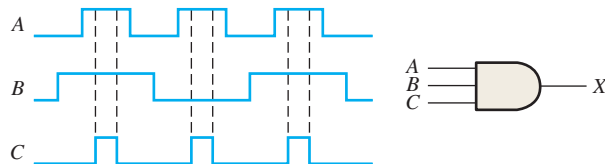

FIGURE 3-80
7. The input waveforms applied to a 3-input AND gate are as indicated in Figure 3-80. Show the output waveform in proper relation to the inputs with a timing diagram.